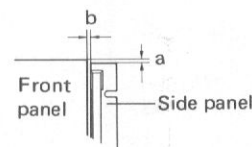

Fig. 3
4. Adjust the difference in level (a) between the front panel and the side panels and also the gap between the two (b) to the minimum and then tighten up all the loose screws (Fig. 3).